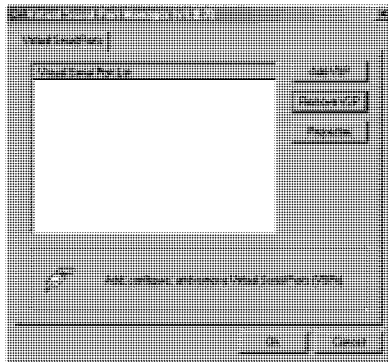

Figure 9: The Virtual Serial Port Manager Window
1. Download the Virtual Serial Port Manager¹ and run the program. The Virtual Serial Port Manager window appears (see Figure 9).